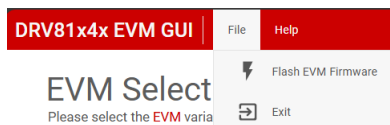

Figure 3-3. Program Device
2. Program EVM with latest software by clicking on *File -> Program Device*. (See Figure 3-3).
3. Select the appropriate GUI variant from the two options for the EVM (Figure 3-3).